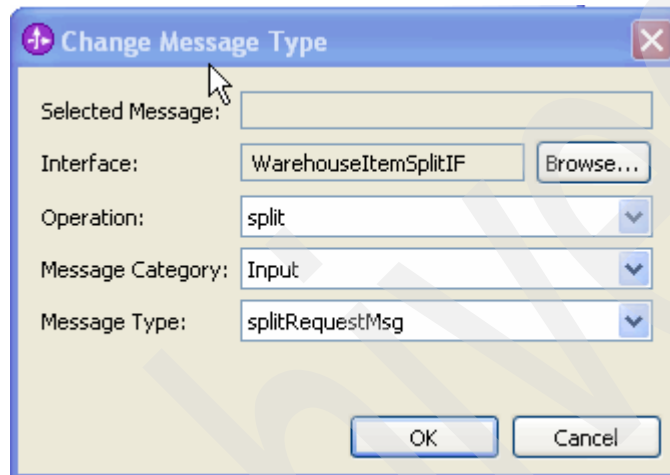

Figure 6-32 *InputToServiceInvoke* input message selection
c. Click **Browse** next to the Input Message Body to go to the Change Message Type panel (shown in Figure 6-32). Complete the panel options as follows: